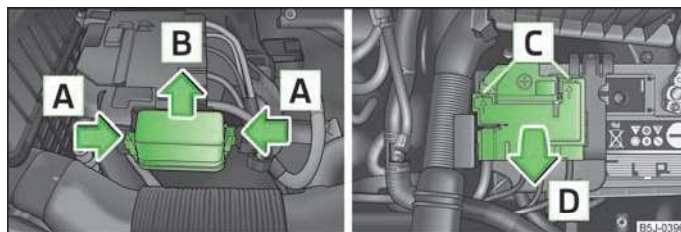

Fig. 144 Vehicle battery: Distribution board cover.
- Press together the circlips in the fuse box cover at the same time in the direction of arrow **A** » Fig. 144 and remove the cover in the direction of arrow **B**.